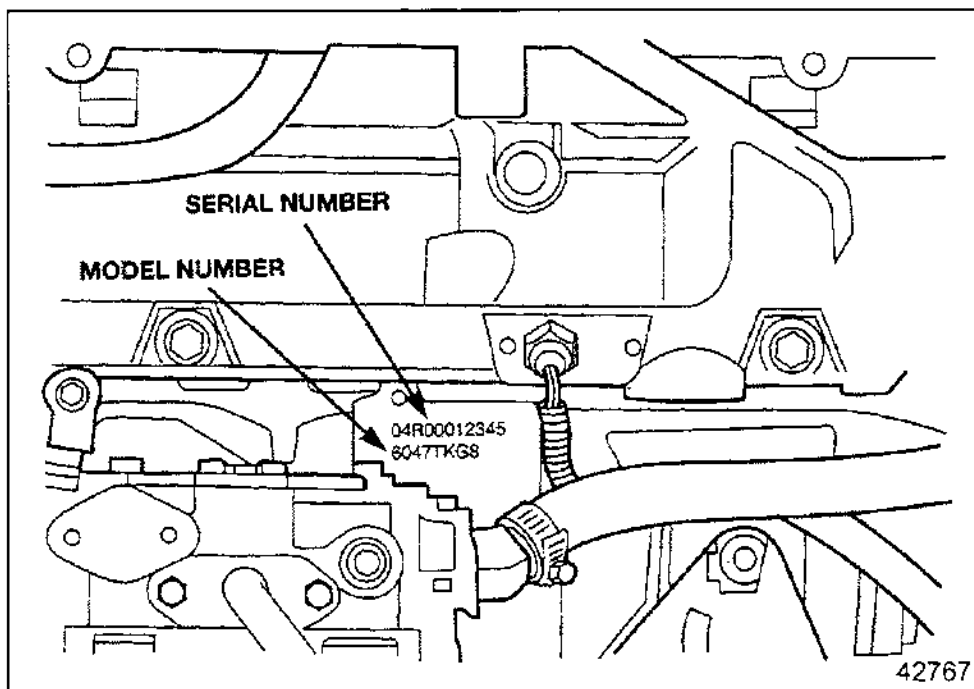

Figure 1 Location of Engine Serial and Model Numbers
- ☐ Left side just below the intake manifold and above the cast-in Detroit Diesel logo. See Figure 1.